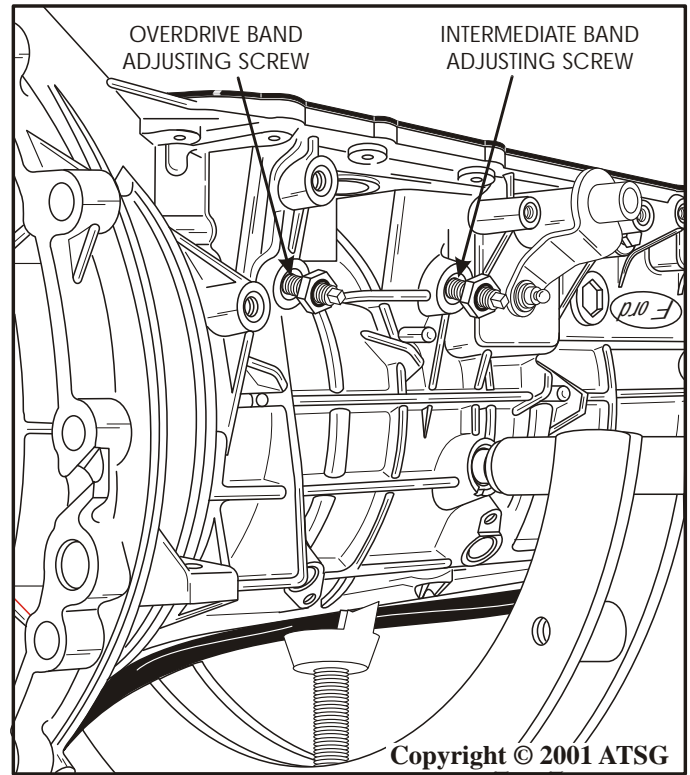

Figure 170
63. Install new locking nuts on both band adjusting screws, using care not to let the adjusting screw come out, so that the band anchors will not fall out and into transmission (See Figure 170).
64. Adjust the overdrive band by turning adjusting screw in while holding the lock nut. Torque the adjusting screw to 14 Nm (10 ft.lb.) and then back out **exactly** 2 full turns for W/S models in trucks and 1-1/2 turns for S models in cars. Refer to Figure 170.
65. Adjust intermediate band by turning adjusting screw in while holding the lock nut. Torque the adjusting screw to 14 Nm (10 ft.lb.) and then back out **exactly** 2 full turns for W/S models in trucks and 1-1/2 turns for S models in cars. Refer to Figure 170.